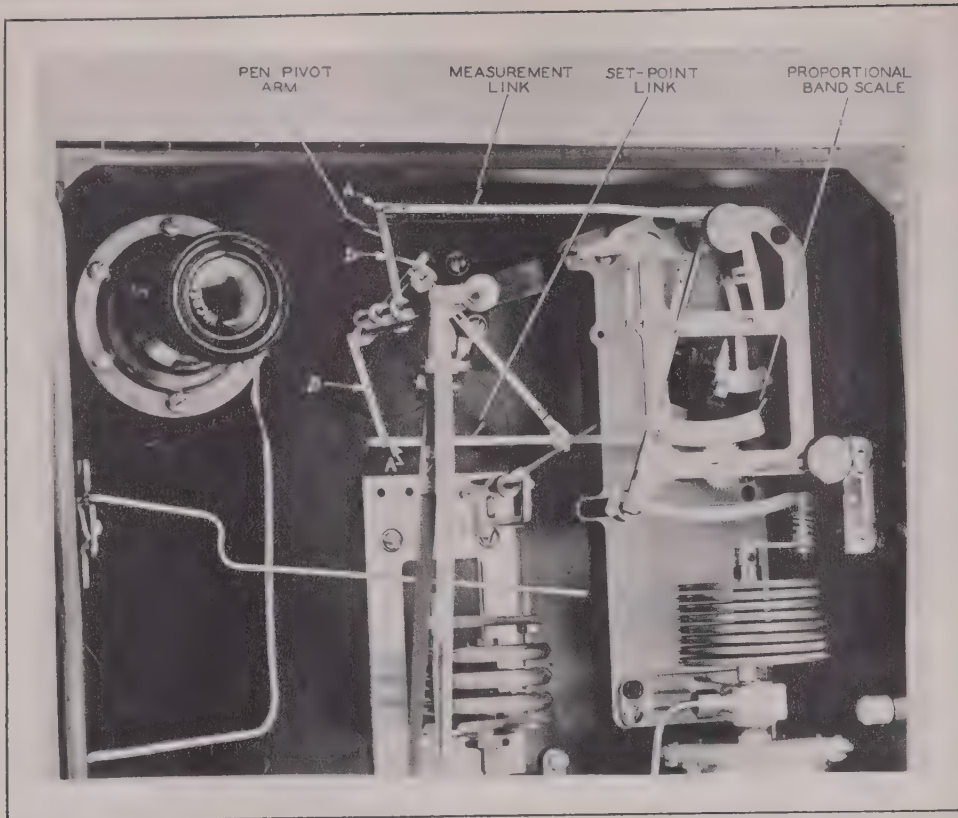

FIGURE 3. UPPER HALF OF SERIES 500W CONTROLLER SHOWING DOUBLE-BAND LINKAGE IN STANDARD BAND (200% PROPORTIONAL BAND POSITION)
Unless otherwise stated the Reset controllers are shipped with the linkage in the 200% proportional band position, as shown in Fig. 3. The selection of which proportional band to use is up to the user, and conversion from one to the other is easily accomplished in the field with no extra parts and no recalibration required.
b. How to change from 400% to 200% proportional-band width. Change measurement link and set-point link to positions shown in Fig. 3.